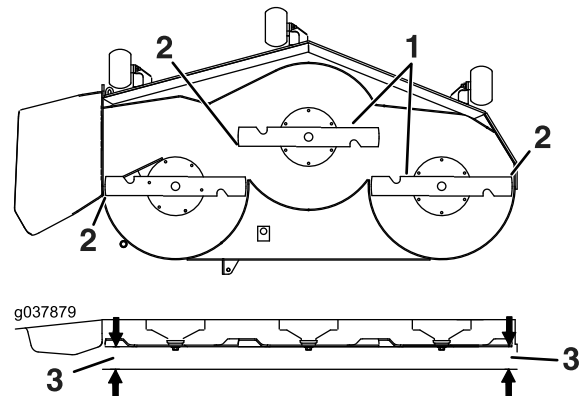

Figure 86
6. Measure between the blade tip and the flat surface (Figure 86). If both measurements are not within 5 mm (3/16 inch), adjust the leveling; continue with this procedure.
14. Carefully rotate the blades side to side (Figure 86).